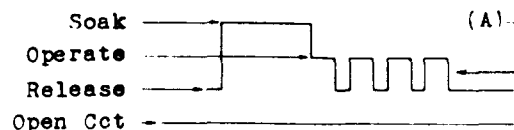

Fig. 6
- (b) Fig. 6 (A) - The current values specified on the circuit requirement table or elsewhere shall be applied in the following order in testing and readjusting. With the "Release" current applied continuously connect both the "Soak" and "Operate" currents. After one second disconnect the "Soak" current and follow immediately by interrupting the "Operate" current at the above speed and ratio of make to break for 3 interruptions. The foregoing cycle of tests, when repeated, shall always proceed in the same sequence starting with the application of the combined "Soak" and "Operate" currents.